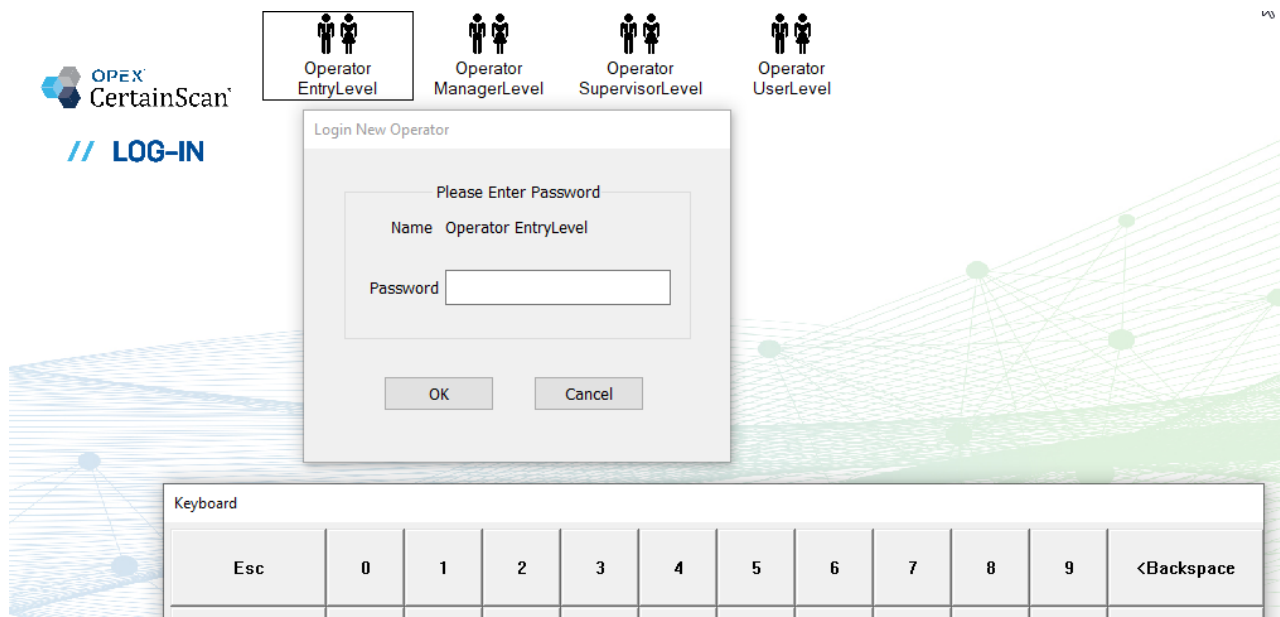

Figure 3-5: Enter password
2. Enter the password (Figure 3-5).